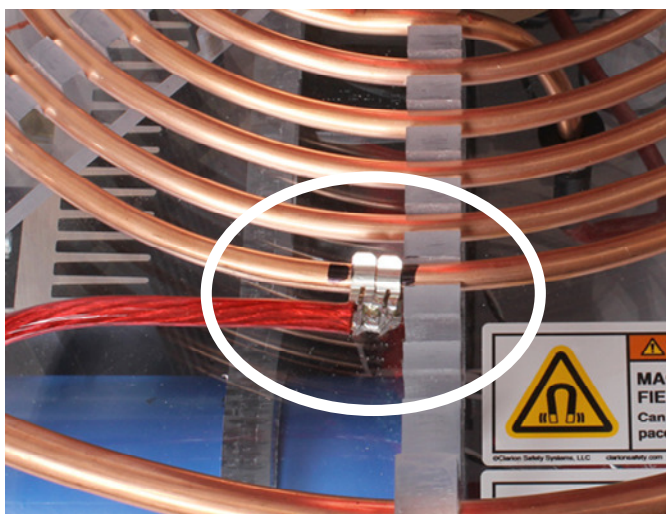

Figure 9 – Primary wire output cable attachment point
- ❑ 11. Ensure that the primary wire output cable is properly and correctly attached to the point shown below in Figure 9 on the primary coil. Ensure the connection is tight. If the connection feels loose, please remove the wire from the primary coil, gently press the connector fingers together to allow a tighter fit, and replace the connection. Do NOT use the Plasmasonic DRSSTC system if the fit of this connection is not tight or secure!